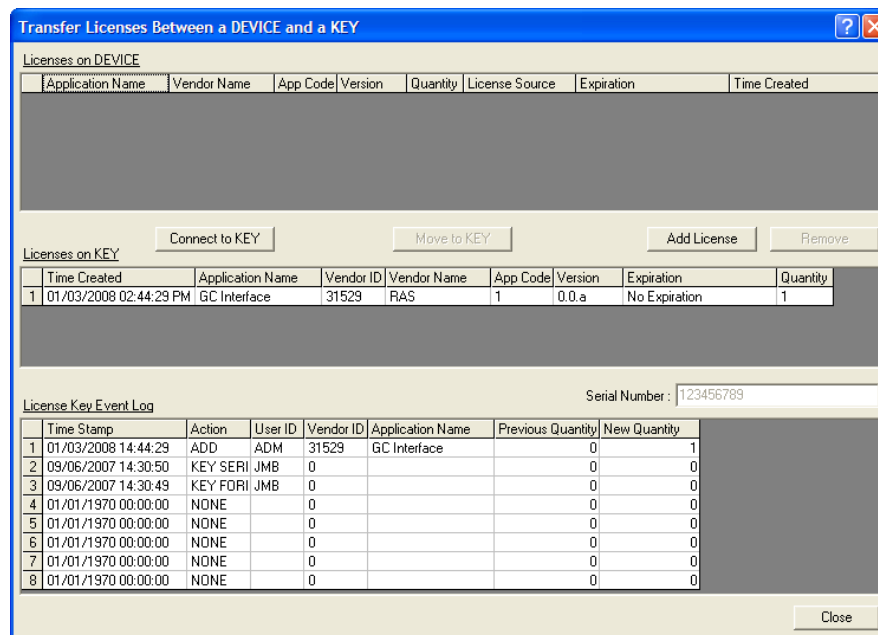

Figure 2-1. Transfer Licenses Between a Device and a Key
3. Select the key-based license you want to transfer to the FloBoss 107 (**GC Interface**, as shown in *Figure 2-1*).